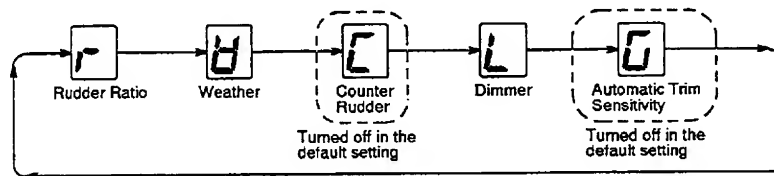

Fig. 6-3 Items in the user's mode
3. Press the  key to select item to adjust. Fig 6-3 shows the items available and the selection sequence when pressing the  key.
As shown in Fig. 6-3 the USER'S mode contains five items. In the default setting, counter rudder and automatic trim sensitivity are disabled since frequent adjustment of them is not necessary. You can enable them, or disable other items, as desired. More on this later.